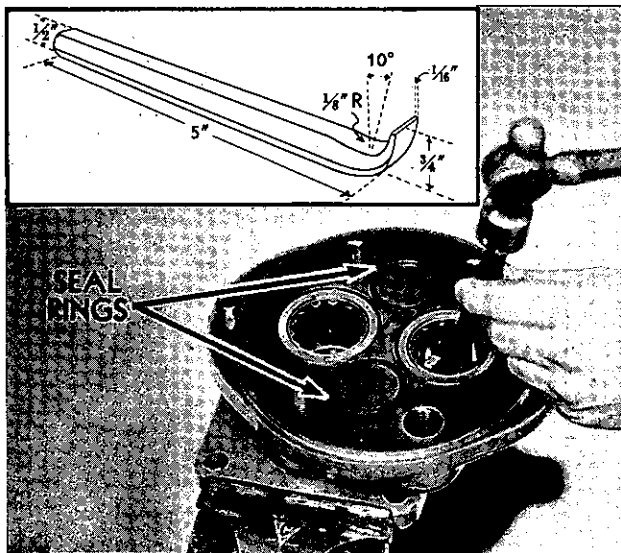

Figure 8
16. Insert the tool (see Figure 8) under the bearing and tap tool with a hammer until bearing is raised.
5. Insert seal rings to seal ring grooves in adapter cover, see Figure 8.